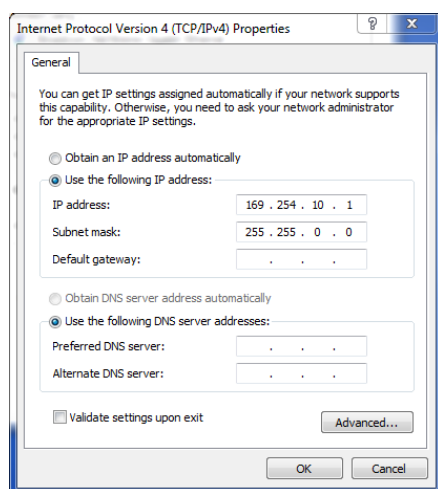

**Figure 14 DeviceInstaller Start Menu**
2. Once installed, launch DeviceInstaller from the START menu (Figure 14).